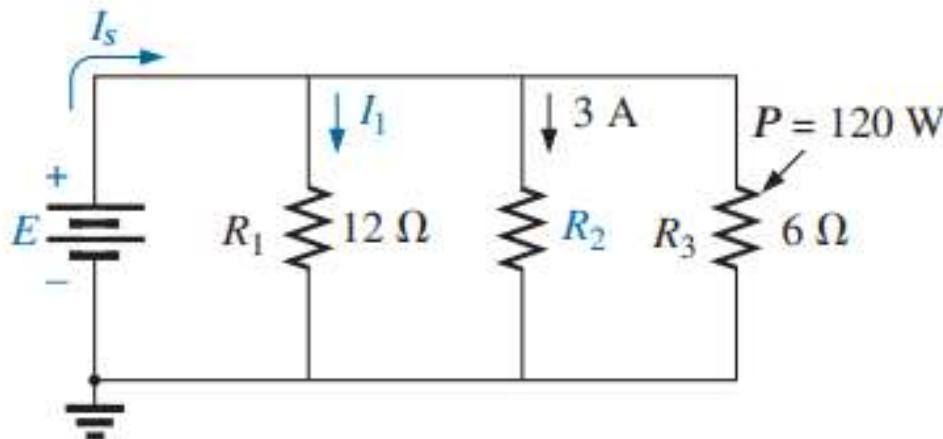

FIG. 6.77
17. Use the information in Fig. 6.77 to calculate: